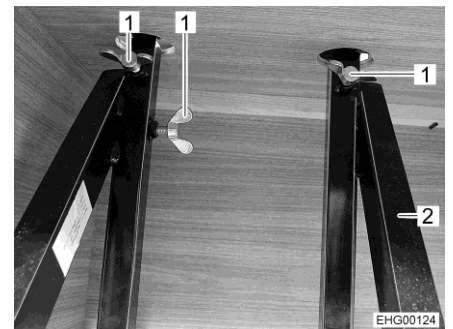

Fig. 29 Wing screws
- Tighten the three wing screws (Fig. 29,1) on the rods (Fig. 29,2) in the chest frame.